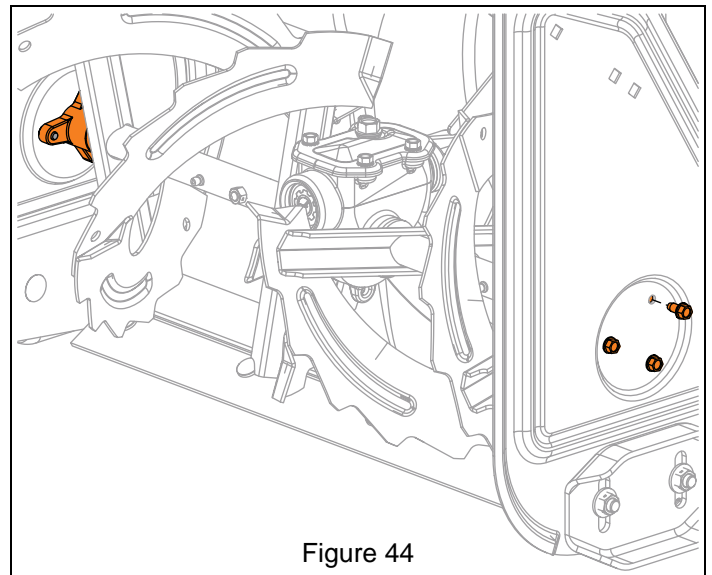

Figure 44
See Figure 44.
5. Secure support bushings to auger housing with six tapping screws. See Figure 44.